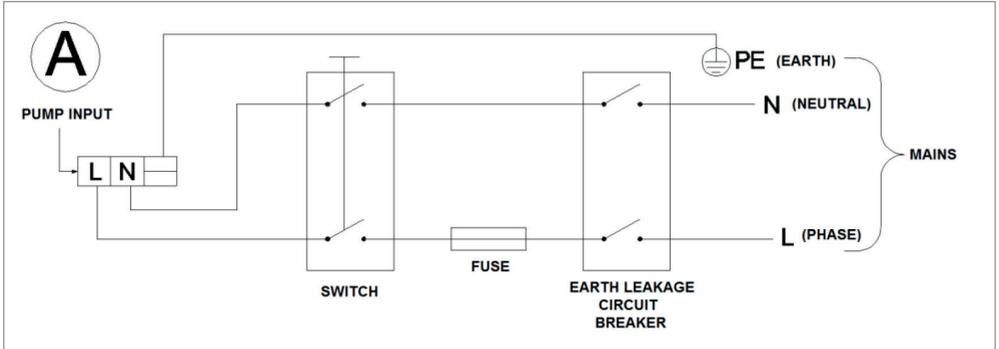
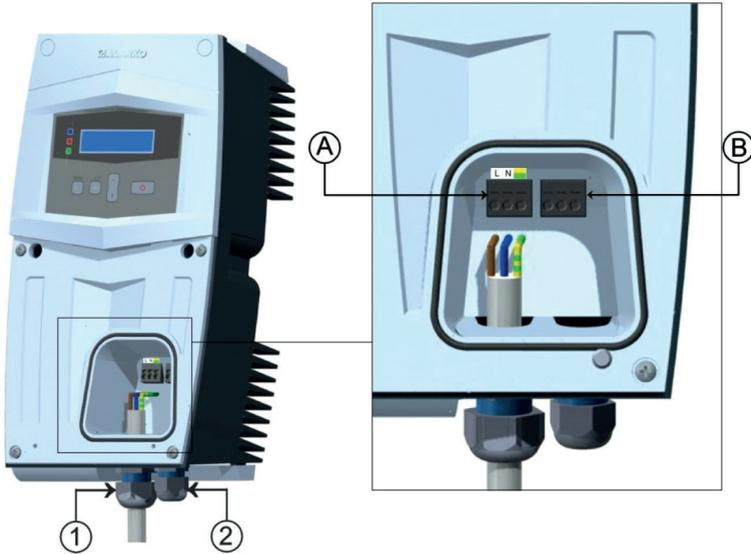

Figure 6.7: Electrical Connection Diagram
Figure 6.9: Cable Gland View
Electrical connection diagram is given at Figure 6.7:
- Pull the power supply cable through the no.1 cable gland shown in Figure 6.9.
- Connect the power supply cables to the socket named as “A” in Figure 6.9 appropriately, as shown in Figure 6.7.